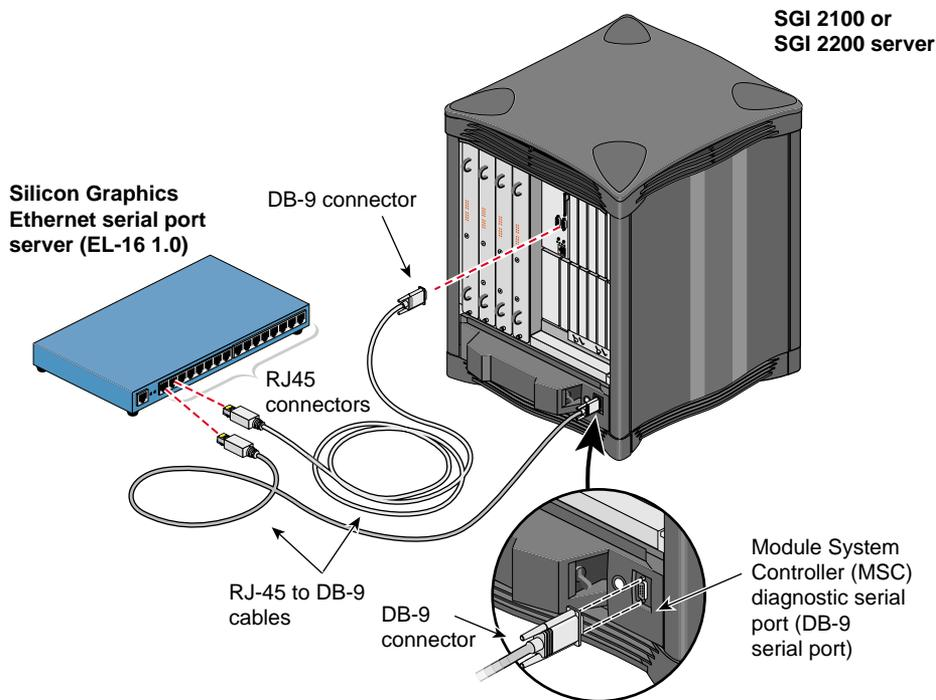

Figure 2-20 Connecting the Serial Port Server to the SGI 2100 or SGI 2200 Server MSC Serial Port
6. Connect the RJ-45 end of the second RJ-45 to DB-9 cable to one of the RJ-45 serial jacks on the Silicon Graphics EL serial port server. Connect the DB-9 connector to the DB-9 jack on the SGI 2100 or SGI 2200 server Module System Controller (MSC) diagnostic serial port. See Figure 2-20.